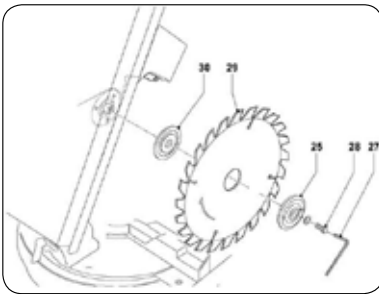

FIGURE 8.7
1. From time to time, apply a drop of oil to the thread of the lock screw (28). Figure 8.7.